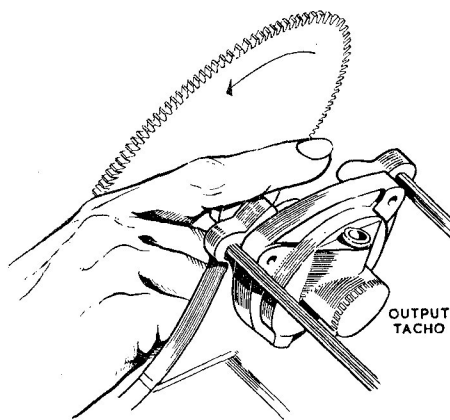

Fig. 14. Spinning detector wheel
- (2) Rotate the VARIABLE SPEED CONTROL fully anti-clockwise.
- (3) Synchronize the DRIVE TACHO by manually spinning the detector wheel. This is best accomplished by spinning the tacho-wheel coupling with the fore-finger, as shown in fig. 14.